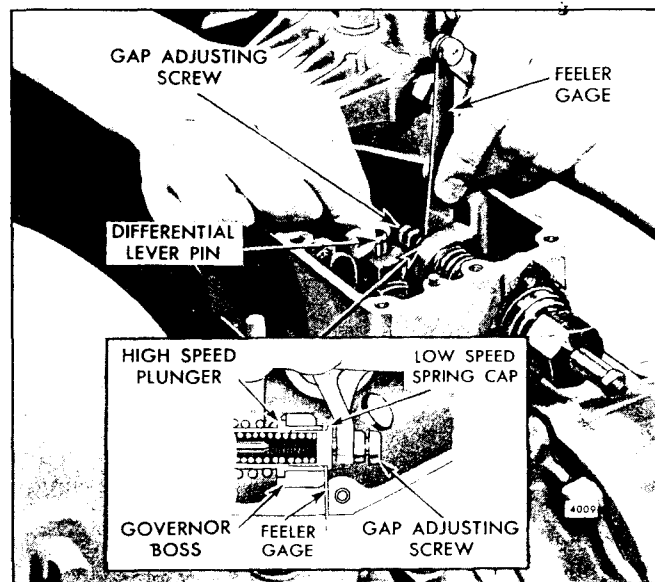

Fig. 2 - Checking Governor Gap
6. Check the gap between the low speed spring cap and the high speed spring plunger with a $.0015$ " feeler gage. If the gap setting is incorrect, reset the gap adjusting screw (Fig. 2). If the setting is correct,